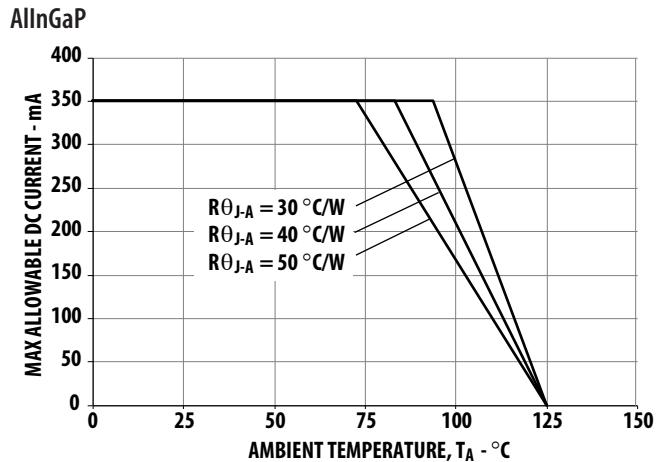
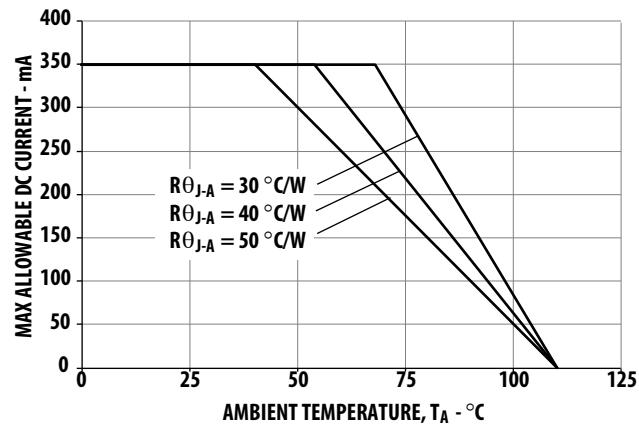

Figure 5. Maximum forward current vs. ambient temperature for AlInGaP
Figure 13. Maximum Forward Current vs. Ambient Temperature for InGaN
1. DC forward current – derate linearly based on Figure 5 for AllnGaP and Figure 13 for InGaN.